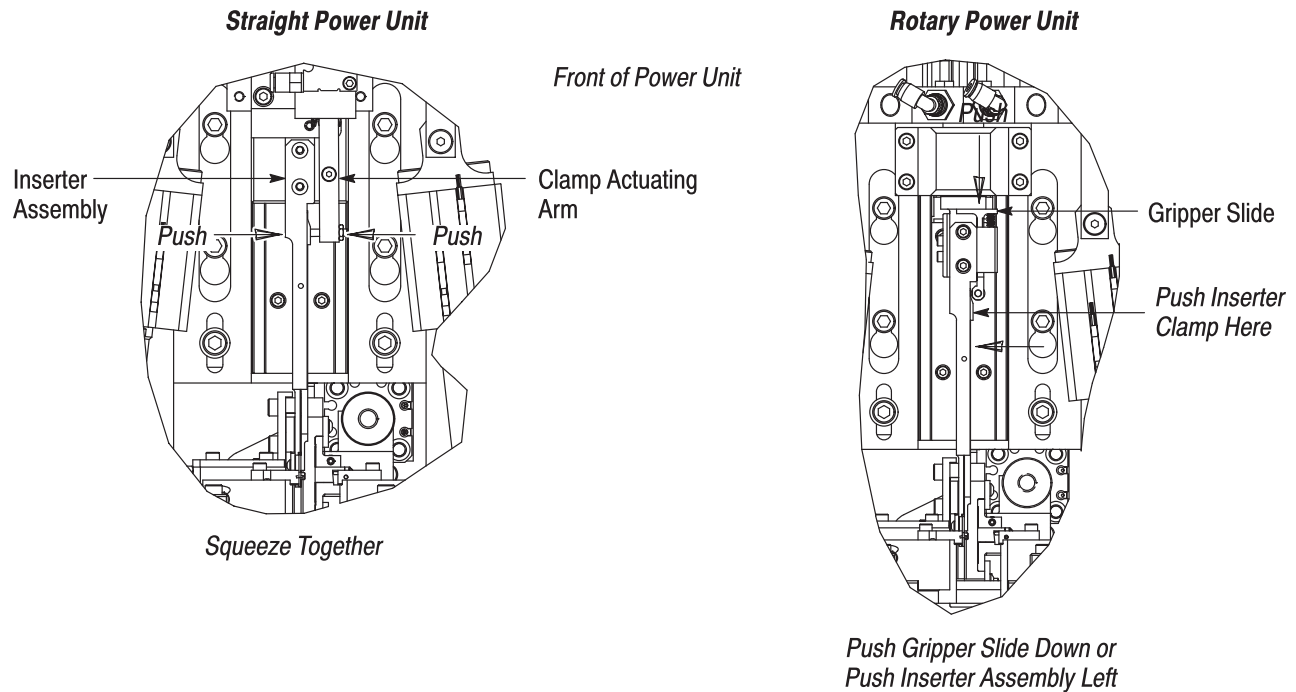

Figure 9
2. Squeeze the inserter assembly and clamp actuating arm together at the points indicated in Figure 9, or extend and retract the inserter assembly.